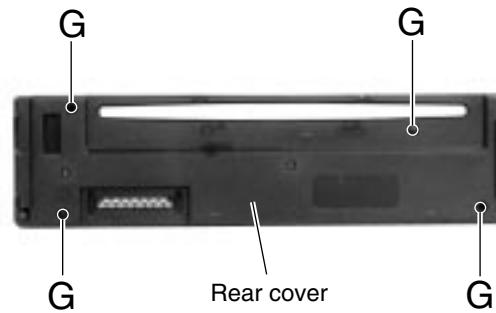

Fig.10
■Removing the control switch board (See Fig.10 to 12)